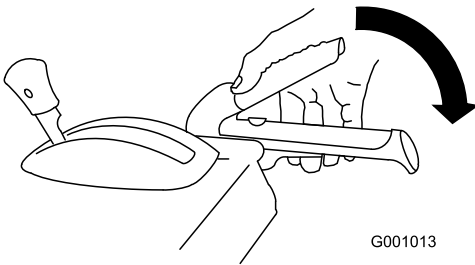

Figure 34
- To engage the auger/impeller drive, squeeze the right (auger/impeller) lever to the handgrip (Figure 34).